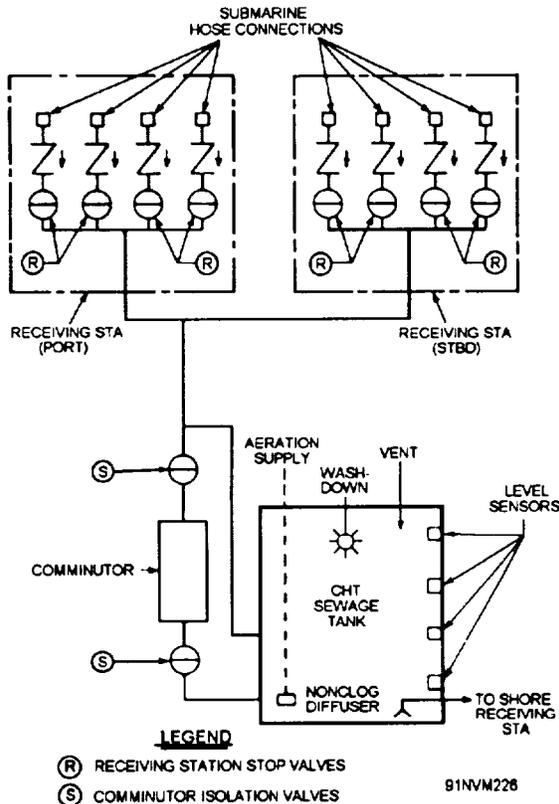

Figure 17-5.—Submarine tender receiving system.
During all tender operations, sewage is transferred from the ships being serviced to receiving stations in the tender. Typical receiving stations in submarine tenders and surface ship tenders are shown in figures 17-5 and 17-6. The tender then transfers the sewage to the receiving facility.
**SUBMARINE SEWAGE TRANSFER TO TENDER.**—Submarine transfer procedures are similar to surface ship transfer procedures. The exception is that the receiving station stop valves (R) (fig. 17-5) are opened and remain open only during receiving. Submarines must obtain permission from the tender before discharging sewage. When receiving operations have been secured, the tender gives a complete air blow of the hose and piping to minimize hose spillage during disconnect.